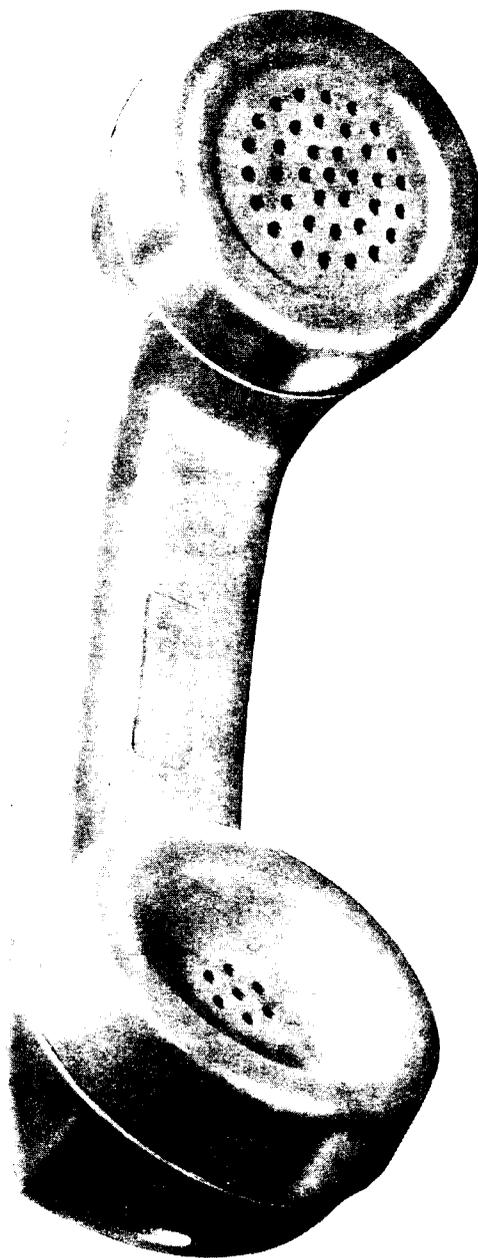

Fig. 4—G-Type Handset
2.12 The *G-type* handset (Fig. 4) is a standard telephone handset consisting of a handle, T1 transmitter unit, U1 receiver unit, and receiver and transmitter caps. Refer to Section 500-120-100 covering telephone apparatus color.